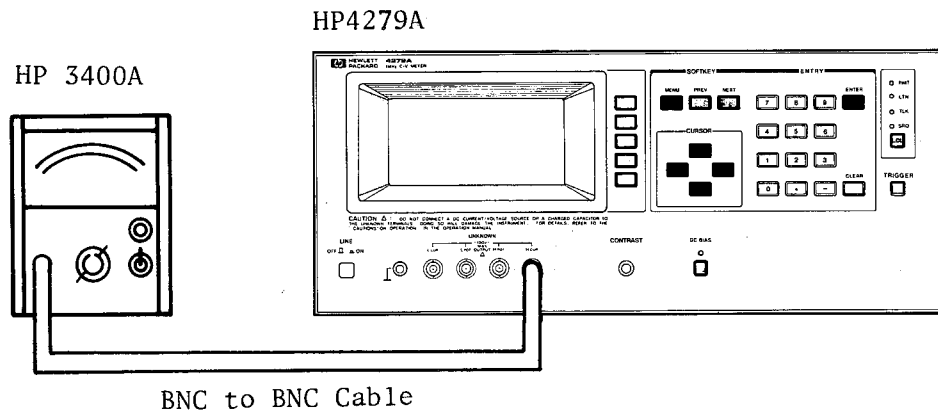

Figure 1-6. Signal Source Adjustments Setup
2. Connect INPUT of the 3400A and the **UNKNOWN** Hcur Terminal of the 4279A using the BNC cable as shown in Figure 1-6.